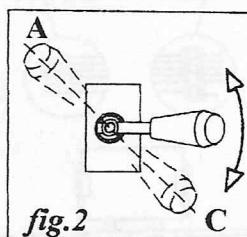

fig. 2
B) Turn the lever of the switch onto position A (crane cyl.) or onto position C (additional crosspiece cyl.). (Fig. 2)